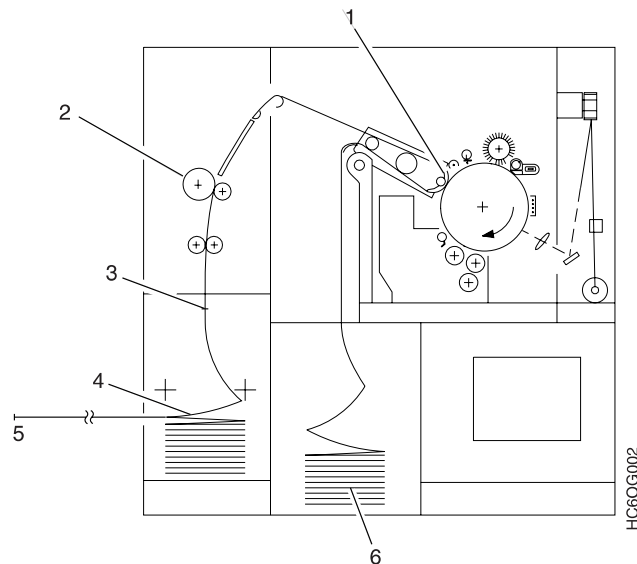

Figure 25. Reprint Path Length
Automatic reprinting normally requests from the host and reprints the number of pages of data, based on the current in-effect page length, for all the pages that can fit in the forms path between the transfer station and the top of the stacker at the time the jam was detected. Also, if a postprocessing device is used, an extra number of pages can be added to the normal number of reprinted pages by setting the **Jam Recovery Point Distance** configuration item under the **Configure Printer** procedure to a non-zero value. This extra number of pages is the physically configured distance from the top of the stacker to or through the postprocessing device. Figure 25 shows the normal reprint path length from the transfer station (1) to the stacker (3). It also shows the additional Jam Recovery Point Distance from the stacker (3) to or through the postprocessing device (5).